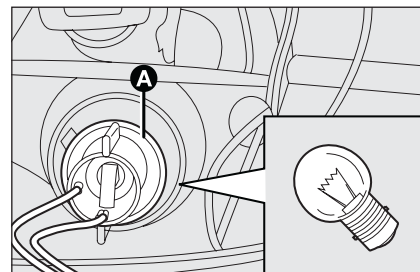

fig. 23
- ☐ turn the bulb holder **A**-fig. 23 counter-clockwise and remove it;